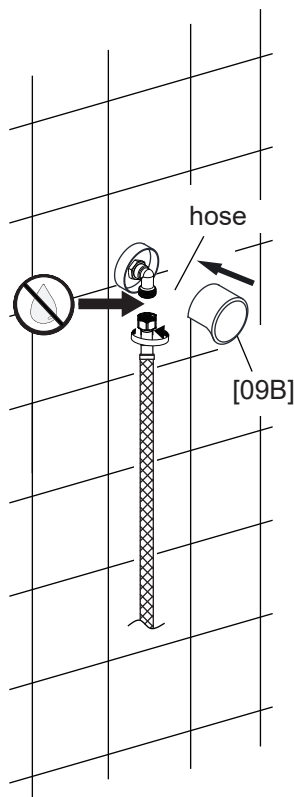

Fig 6.2
- 6-1** Connect the **hose** to the **Nipple [10]** and tighten it to secure. (Fig 6.2)
- 6-2** Test all water functions by turning on the faucet before hanging the shower panel. Retighten if necessary, but do not overtighten. Install the **Cap [09B]** to the **Base [09A]**. (Fig 6.2)